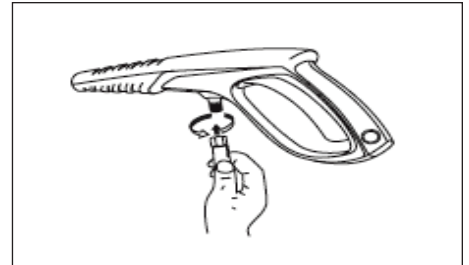

Figure 9 - Attach high pressure hose to gun
7. Attach high pressure hose to gun (see Figure 9).